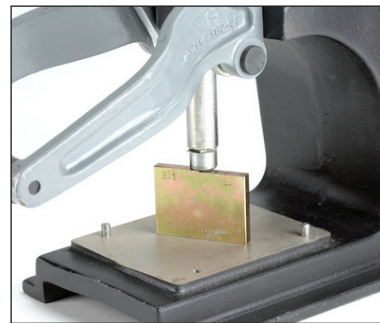

Figure 2
- 3.2 Place the shut height gauge, #3436-1J, across the press base. (See Figures 2 and 3)
- 3.3 Lower the handle of the press until the handle casting makes contact with the press casting. (See Figure 2)